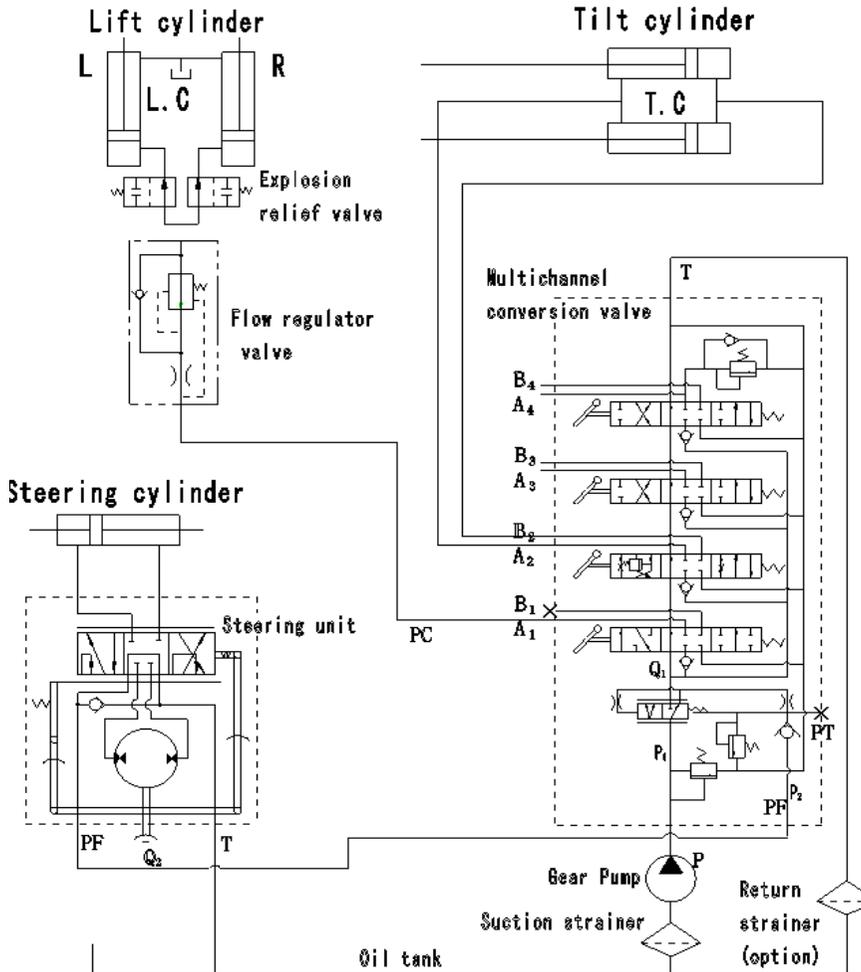

Figure 4.28 Hydraulic oil circuit
6.4 Hydraulic oil circuit(Figure 4.28)